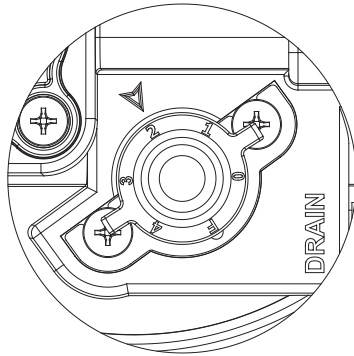

Figure 13
- Once the air has been purged from the system, position the drain barrel in #2 service position (see Figure 13). The storage tank will continue to fill with water.
Helpful Tip: In both the fast flush and #2 position, the ears of the drain barrel are aligned with the mounting screws. To make it easier to identify positions, there is a raised rib at the "F" position. See Figure 13.